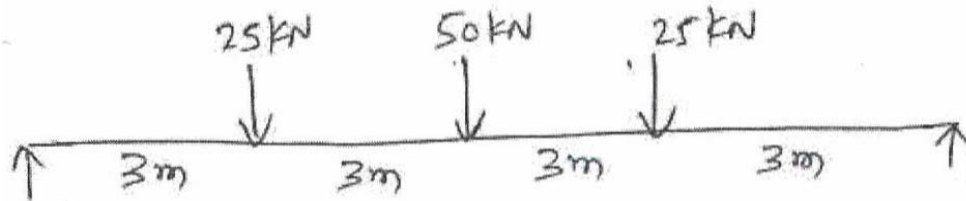

fig.1
- Q1) a)** A simply Supported beam of span 12 m loaded as shown in fig1. Find the shear force & bending moment at a section 6 m from left end, Draw ILD for support reactions, shear force & Bending Moment. **[9]**